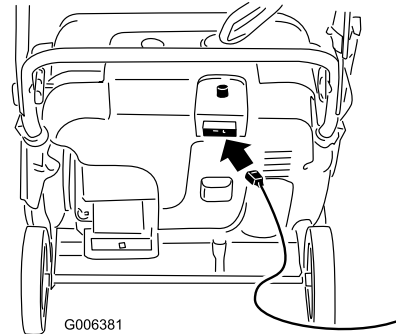
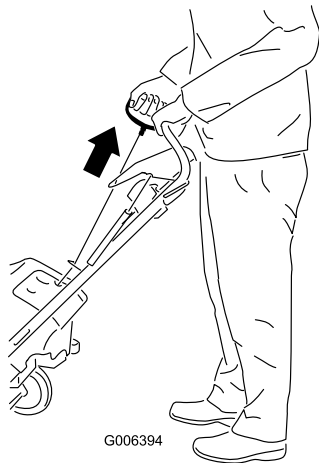

Figure 17
Figure 18
4. Connect an extension cord to a power source and the machine, and push the electric-start button (model 38569 only) (Figure 17), or pull the recoil start handle (Figure 18).